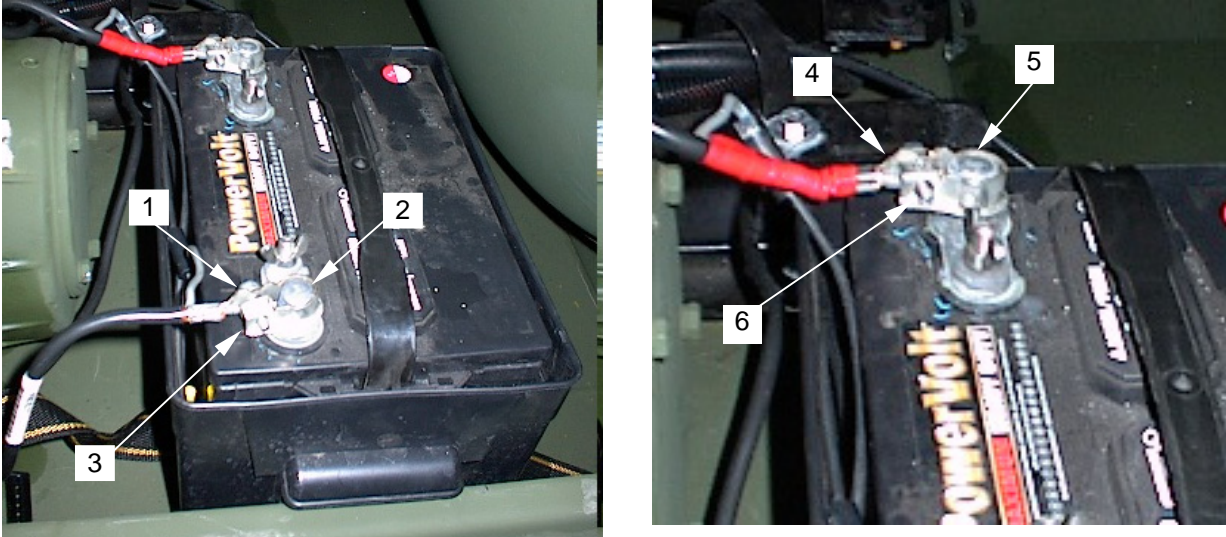
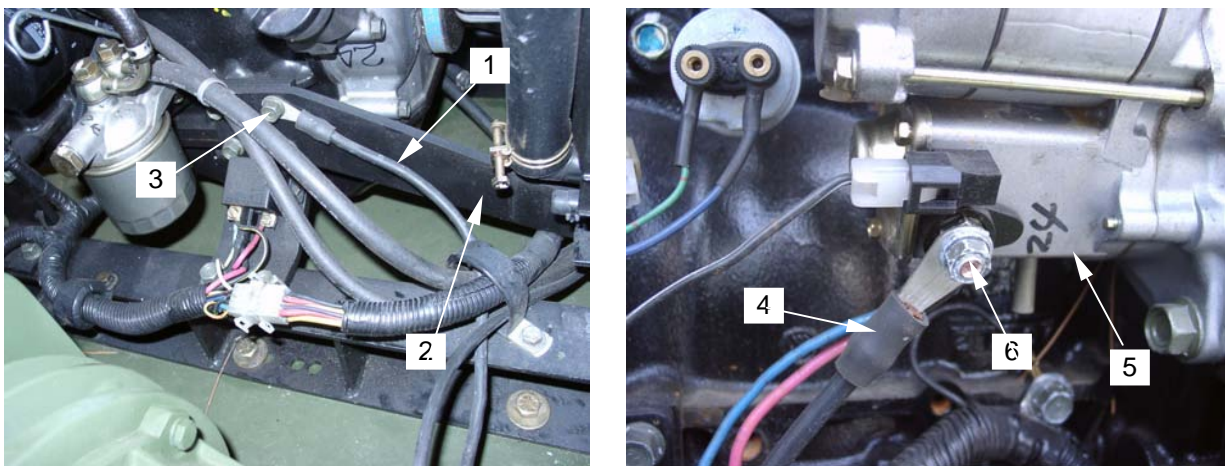

Figure 2. Removing Cables from Battery
Figure 3. Removing Cables from Engine Mount and Starter
3. Loosen the hex nut (**figure 2, item 1**) on the battery cable clamp (**figure 2, item 2**) and remove the clamp from the negative terminal (**figure 2, item 3**)
4. Remove the battery cable clamp (**figure 2, item 4**) from the positive terminal (**figure 2, item 5**) by loosening the hex nut (**figure 2, item 6**) and moving clamp off the terminal (**figure 2, item 5**).
5. If negative cable (**figure 3, item 1**) has to be replaced, disconnect the cable from the engine mount (**figure 3, item 2**) by removing the hex bolt and washer (**figure 3, item 3**). Retain hardware. Remove cable.
6. If positive cable (**figure 3, item 4**) has to be replaced, disconnect the cable from the starter (**figure 2, item 5**) by removing the hex nut and washer (**figure 3, item 6**). Retain hardware. Remove cable.